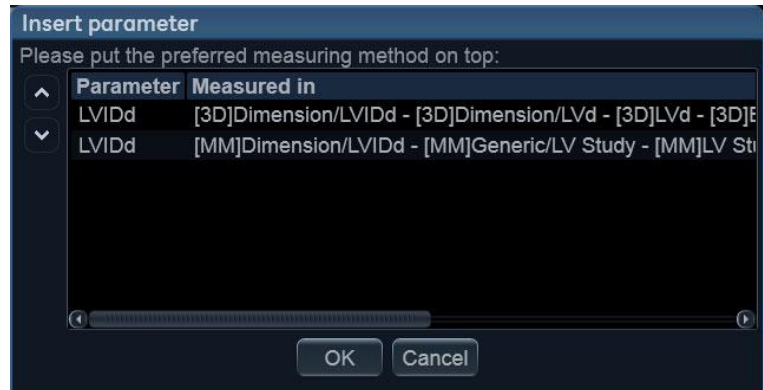

Figure 11-12. The parameter list
5. If the selected parameter can be measured/calculated by different methods, the user is asked to select the preferred parameter to insert (Figure 11-12). Move the preferred parameter as first item in the list displayed and select **OK**.